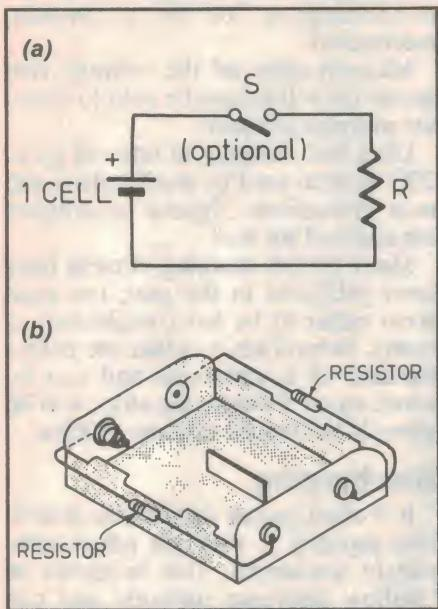

Fig.3: A simple system to allow individual discharging of each NiCad cell. Values for resistor R are shown in the table below.
For both these reasons, cells should be individually discharged before recharging. The best and cheapest way to do this is to discharge each cell through a resistor. This not only prevents the possibility of reverse-charging, but also ensures that the cells are completely discharged before recharging. Fig.3 shows the appropriate circuit and a possible arrangement.
- Build a range of dischargers, as shown in Fig.3. All cells should be completely discharged before recharging. In addition the capacity of cells can often be markedly increased by charging and then discharging them three or four times.